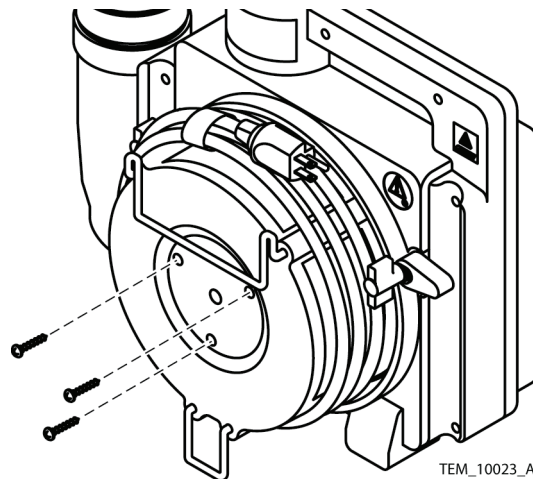

Figure 87. Filter Cover Installation
53. Install the filter cover assembly on the rear cover assembly. Tighten the screws to 8 to 12 in/lbs (20 to 30 cm/kg). See Figure 87.